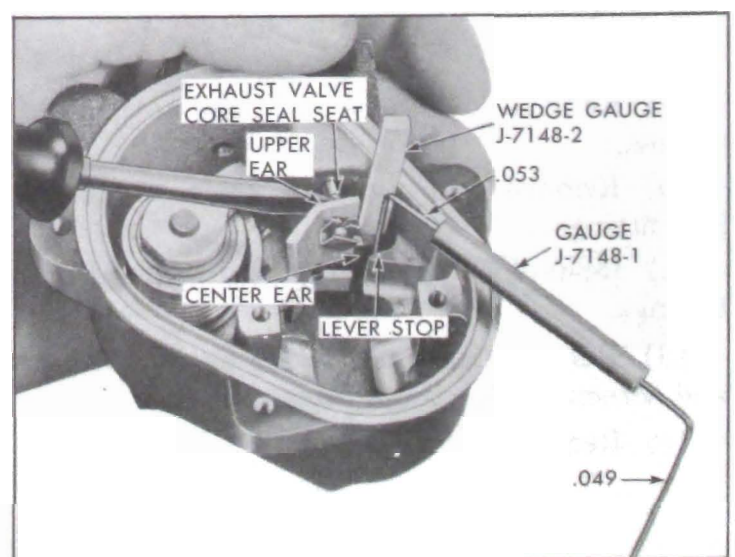

Figure 7-72—Checking Exhaust Valve
(4) Remove Wedge Gauge J-7148-2 and Gauge J-7148-1. Insert the .053 end of the feeler gauge between the stop and center ear of the operating lever and repeat the operation just described, using the same reduced line pressure. Again, press against the exhaust valve core seal seat, using the same pressure as the first time. The valve should seal completely and no air noise should be heard. See Figure 7-72.